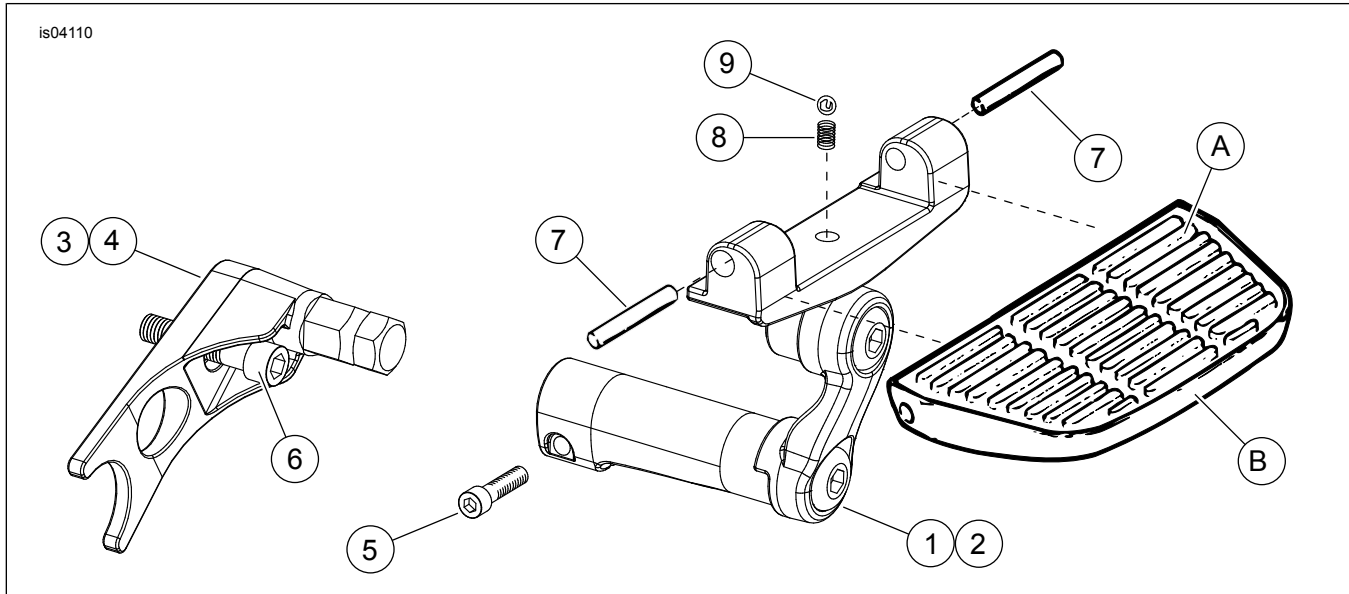

Figure 1. Service Parts: Softail Adjustable Passenger Footboard Support Kit
See Figure 1 and Table 1.
1. See Figure 1. Install footboard mounts (3) and (4) as follows:
- a. Position footboard mount and insert screw (6) through part and into footpeg mounting hole in frame.
- c. Tighten screw (6) to 45-60 ft-lbs (61-67.8 Nm).